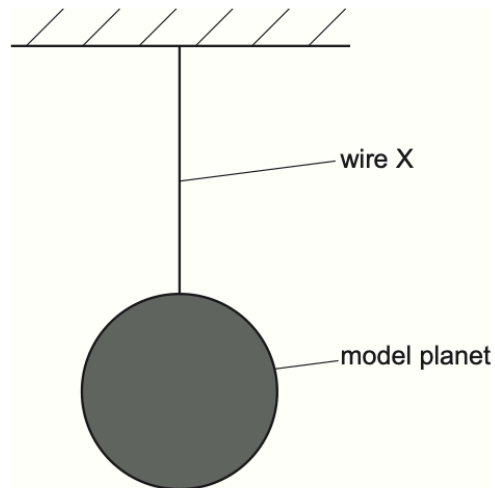

Fig. 3.1 (not to scale)
- 7 A thin metal wire X, of diameter  $1.2 \times 10^{-3} \text{ m}$ , is used to suspend a model planet, as shown in Fig. 3.1.